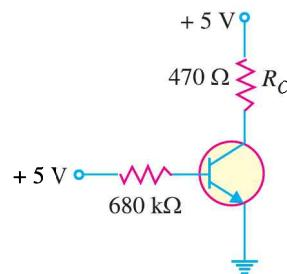

Fig. 8.71
- Draw the d.c. load line for Fig. 8.71.
- If the collector resistance R_C in Fig. 8.71 is increased to $1\text{k}\Omega$, what happens to the d.c. load line?